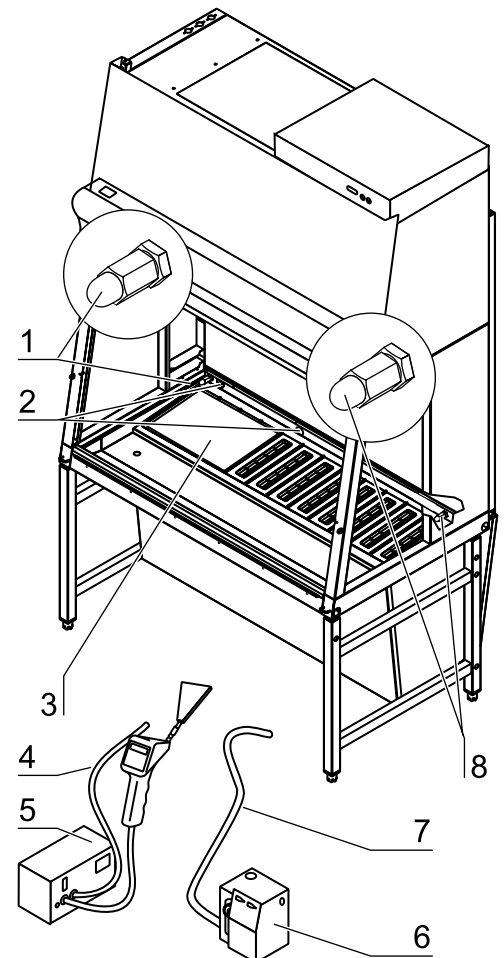

Fig. A2,
1. **Fig. A2:** Connect the particle monitor connecting hose to the connection [1] or [8].